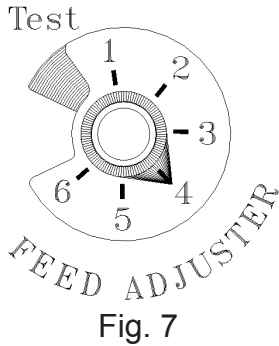

Fig. 7
4. Adjust Feed Rate. If this is your first fire or you are trying different pellets, set the feed adjuster to #4, Fig. 7. This is a conservative number and will probably need to be increased. After you know a feed rate setting that works well, use that setting. Remember, if your feed rate is too high you may waste fuel.